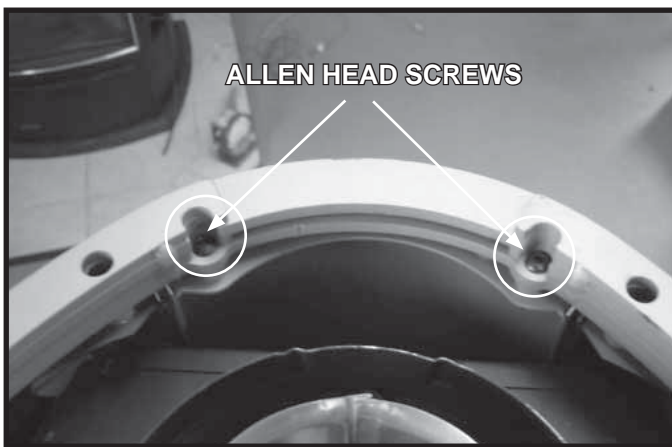

Figure 7.1
- The batteries are located within the ignition module which is located behind the glass door assembly. A wiring diagram is shown in Figure 7.1.